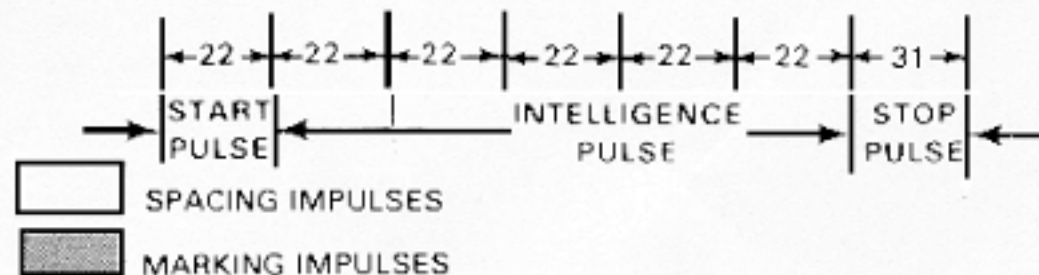

Figure 2-21. Teletypewriter code character set and standard start-stop, five-unit code chart.
The teletypewriter itself consists of a transmitting keyboard and a receiving and printing mechanism. The depression of a key activates the transmitting mechanism that sends a series of electrical signals over the radio to a receiving device with the receiving radio. This device translates the signals into a mechanical action so the printer can select and print the proper character. Each key sends a different arrangement of pulses (fig 2-21) and the message may be printed in page form or on a tape. The teletypewriter keyboard contains the letters of the alphabet, basic numbers, and punctuation marks (fig 2-21). The machine also performs the function of carriage return, line feed, letter/number shift, and spacing.
**appendix C.****Figure 2-21. Teletypewriter code character set and standard start-stop, five-unit code chart.**